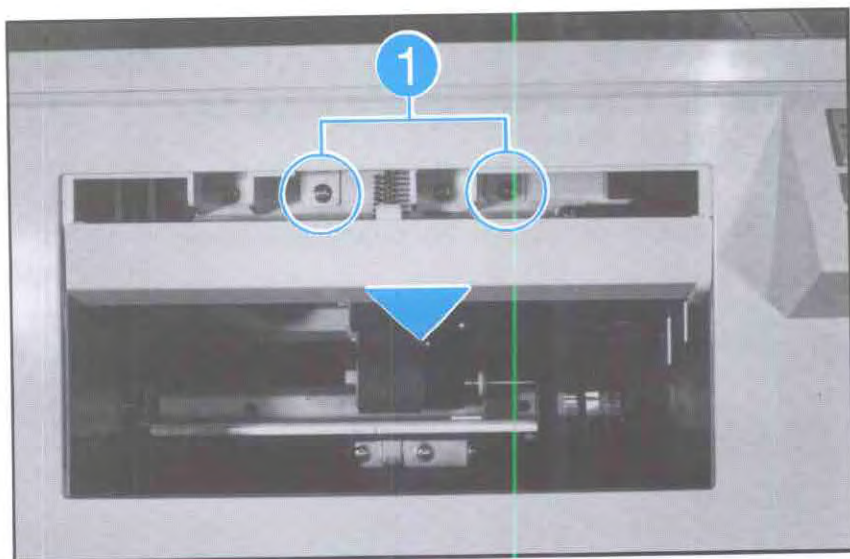
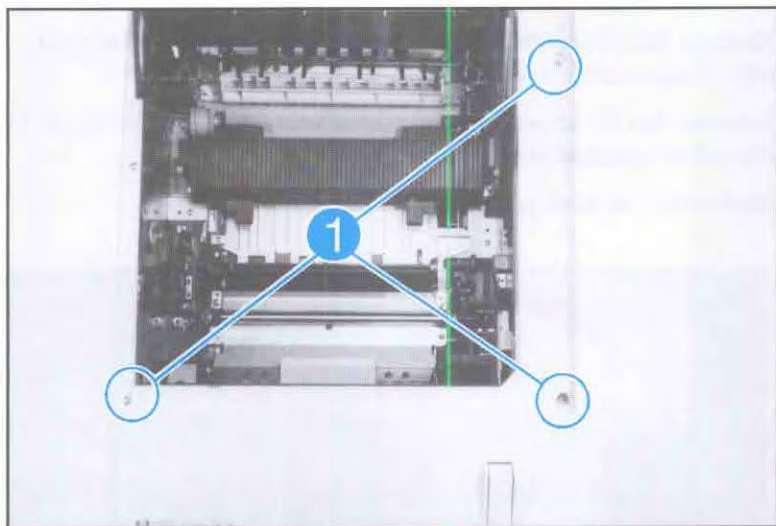

Figure 6-3. Front Upper Cover
Figure 6-4. Front Upper Cover (continued)
3. Slide downward on the center of the Feeder Cover to remove (see Figure 6-3).
4. From the front of printer, remove the (2) screws shown in Figure 6-3, callout 1. These (2) screws are on steel flanges.
5. Open the printer and remove the (3) screws shown in Figure 6-4, callout 1. Lift the Front Upper Cover Assembly up to remove.
3. Remove the Front Upper Cover (see Figure 6-3 and Figure 6-4).
3. Remove the Front Upper Cover (see Figure 6-3).